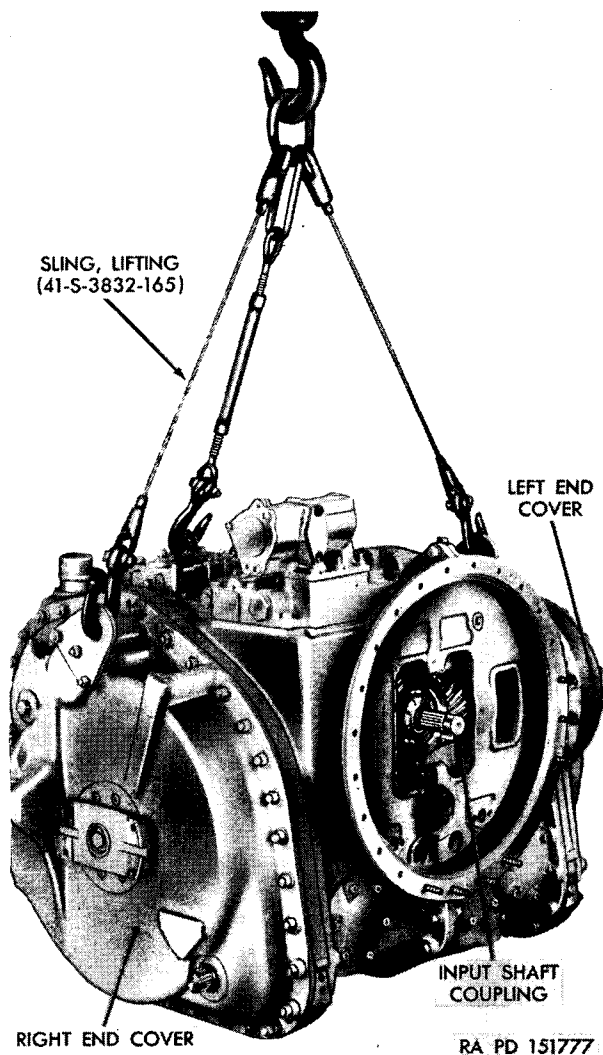
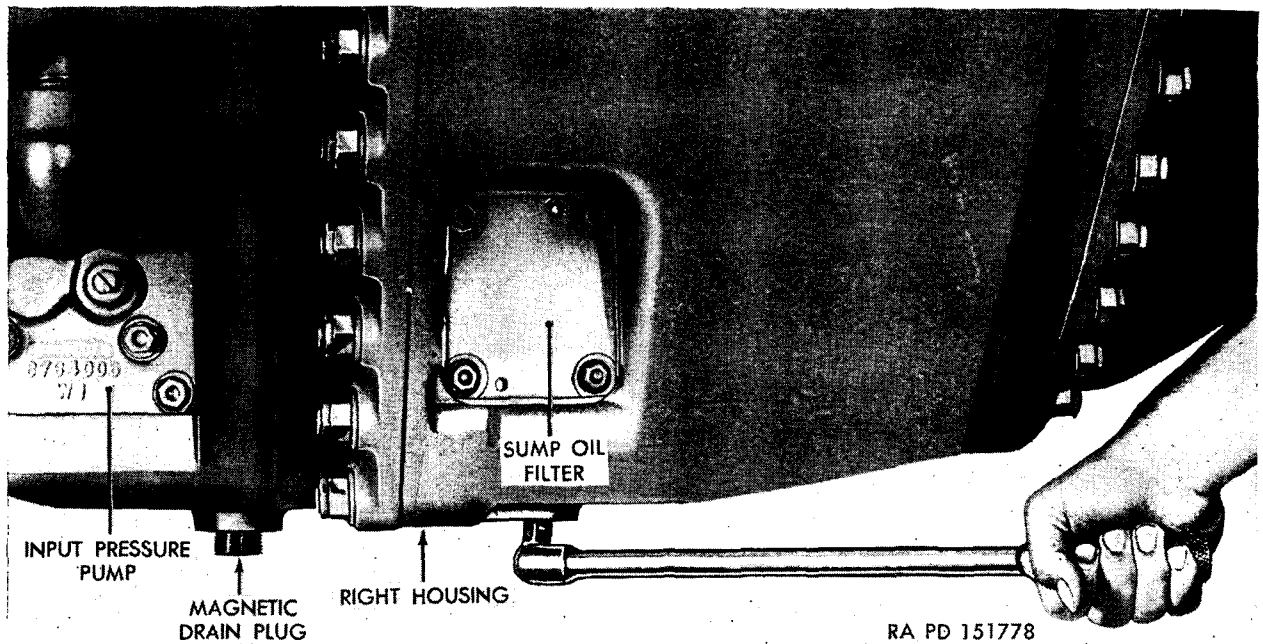
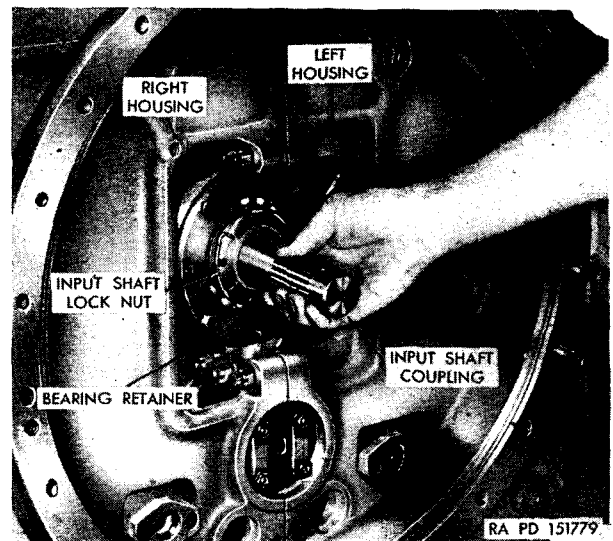
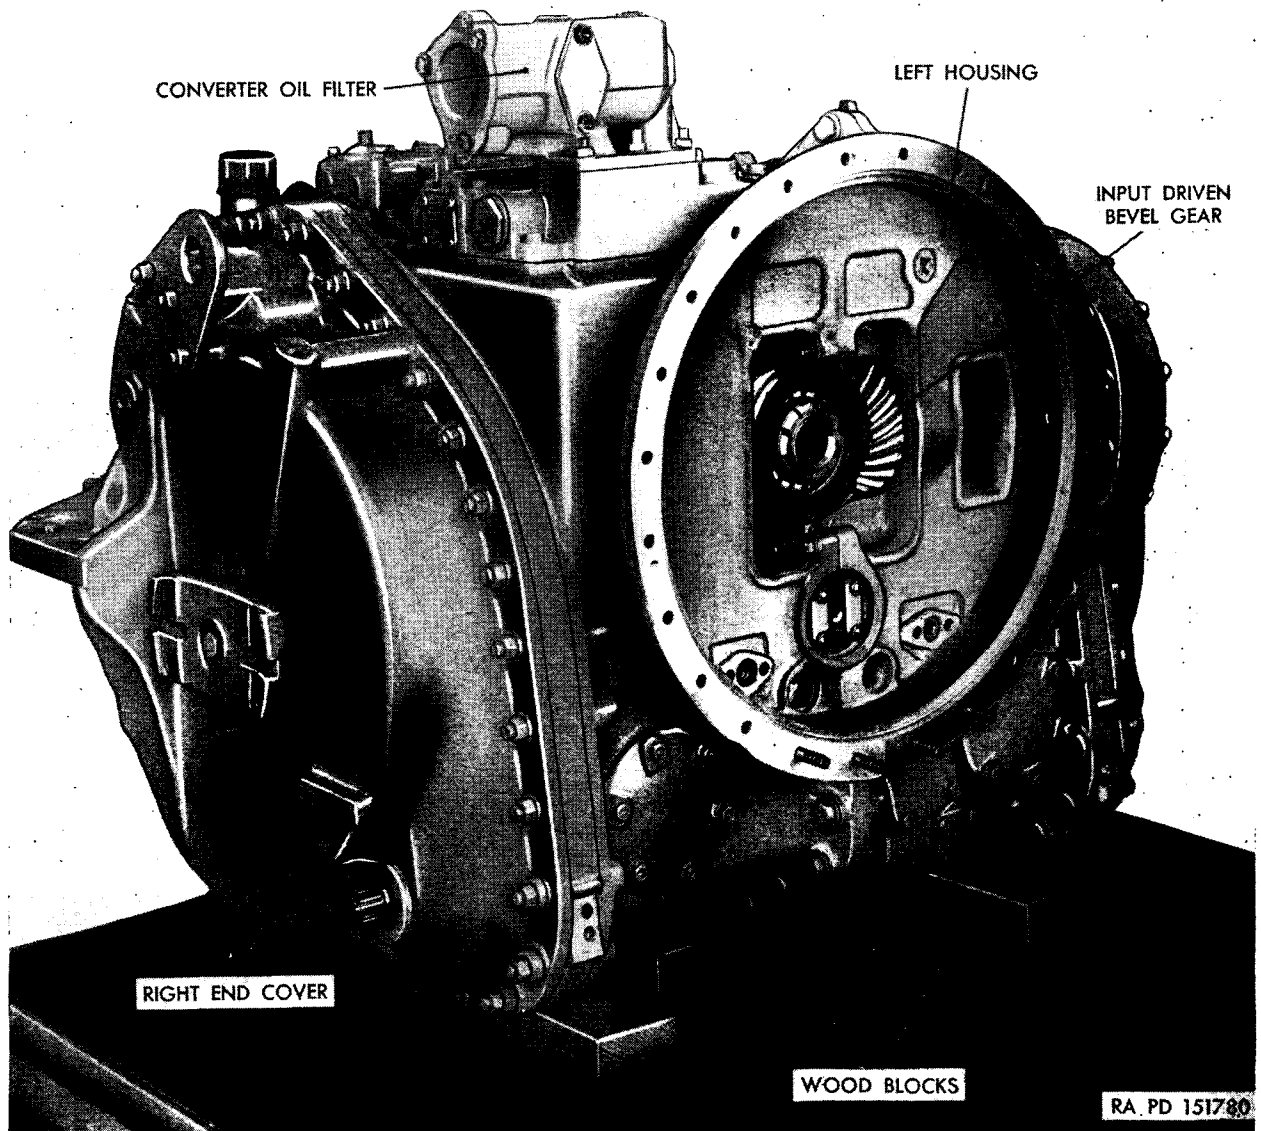

Figure 38. Lifting transmission.
Figure 39. Removing magnetic drain plugs.
Figure 40. Removing or installing input shaft coupling.
Figure 41. Transmission resting on blocks.
- (1) Place the power plant on a stand or block with suitable blocks or rests to support the unit. Remove the power pack sling (41-S-3830-700) and install the transmission sling (41-S-3832-165) on the transmission. Take up the slack. Disconnect the two sending units on transmission.
- (2) Disconnect the brake rod at the stabilizer bar. Disconnect the transmission vent hose. Disconnect the oil cooler lines. Remove 24 nuts from the studs at attaching flange. Gradually work the transmission away from the engine and take the transmission to a suitable bench or stand.
a. PREPARATION OF TRANSMISSION FOR DISASSEMBLY. Position the hoist over the transmission. Attach the lifting sling (41-S-3832-165) to the transmission lifting eyes and raise the transmission (fig. 38). Remove both magnetic drain plugs from the bottom of the transmission, using a $\frac{1}{2}$ -inch break-over bar (fig. 39). Allow the transmission oil to drain completely. Install and tighten the drain plugs. Remove the input shaft coupling (fig. 40). Lower the transmission onto the assembly table and level it with wooden blocks (fig. 41).